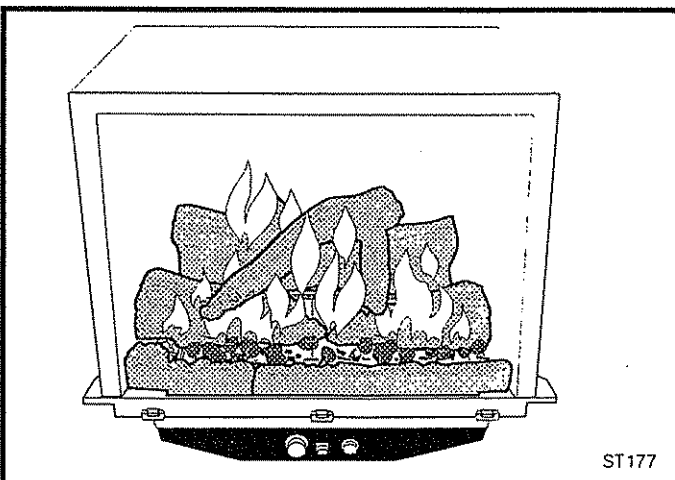

Fig. 47 Correct burner flame pattern.
2. Place the ON/OFF/T"STAT switch in the ON position and continue to watch the fire until the entire unit is lit. The burner flames should appear as depicted in Fig. 47. For thermostatic control, set the wall thermostat to the desired room temperature and then place the remote switch in the T"STAT position.